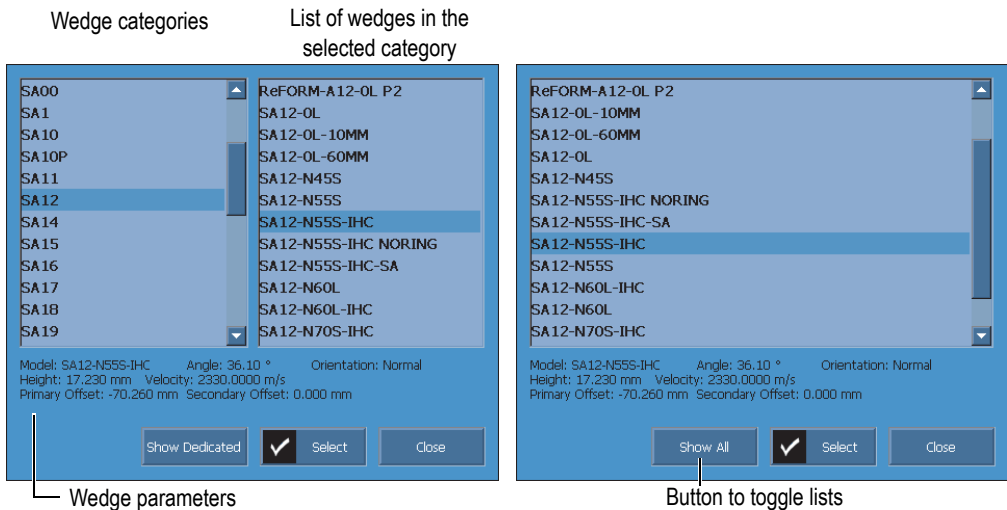

Figure 4-3 The lists of wedges in the wedge selection dialog box
3. Select **Wedge** to open the predefined list of wedges (see Figure 4-3 on page 95):